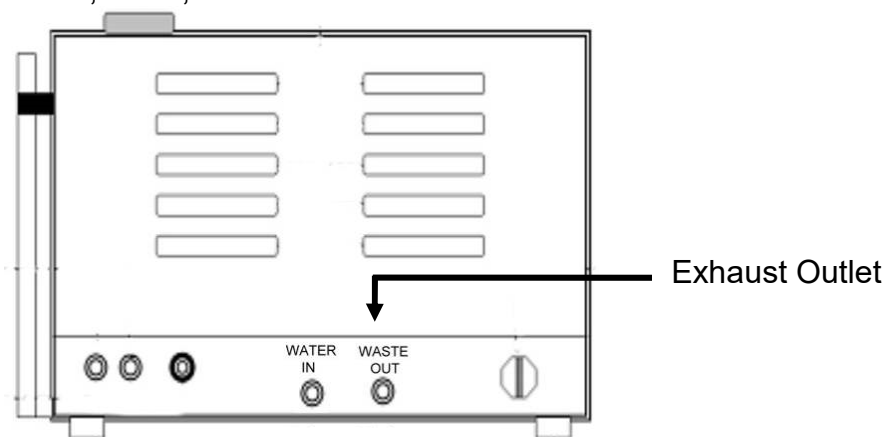

Figure 30
D. Heating water is drained from the chamber through this outlet. Connect the exhaust hose to the "WASTE OUT" as shown in Figure 30 to drain heating water according to the local national law.